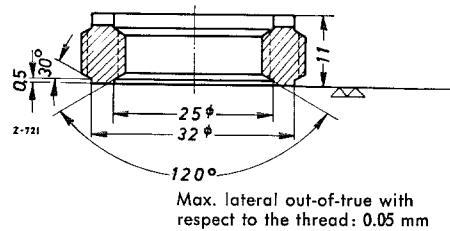

Fig. 07-17/5
with 7-8 mkg using the socket part No. 3125890009. Before screwing in the nozzle holder (1), check again whether the cylindrical part of gasket (4) faultlessly sits in the bore of the pre-chamber (see Figure 07-17/4).
7. Place the fitting (3) onto the nozzle holder (6) (see Figure 07-17/1). The contact surfaces to nozzle holder and fitting should be absolutely even and clean to ensure a leak-proof connection. If necessary, machine the sealing surfaces or replace the fitting.
8. Screw on the hex nut (2) for mounting the fitting (3), but do not tighten, because the leak oil line (4) should be connected first (see Figure 07-17/1).
9. Tighten the leak oil line (4) with the hollow screw (5) on the fitting (3), using new gaskets on both sides (see Figure 07-17/1).
10. Tighten the hex nut (2) with 5 mkg using a torque wrench. Do not tighten beyond this torque to make a connection leak-proof. Excessive tightening elongates the threaded connection rendering the nozzle holder unserviceable. Leaks are always caused by bad sealing surfaces on fitting and nozzle holder.
11. Connect the injection line by screwing the union nut (1) on the nozzle holder (see Figure 07-17/1).